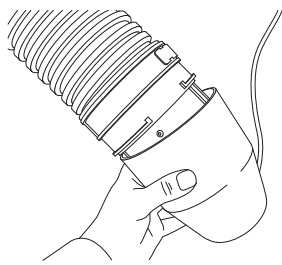

Fig. 26
9. The cone has two internal lugs that engage on the boiler adaptor in a bayonet action (Figs. 26 & 27).